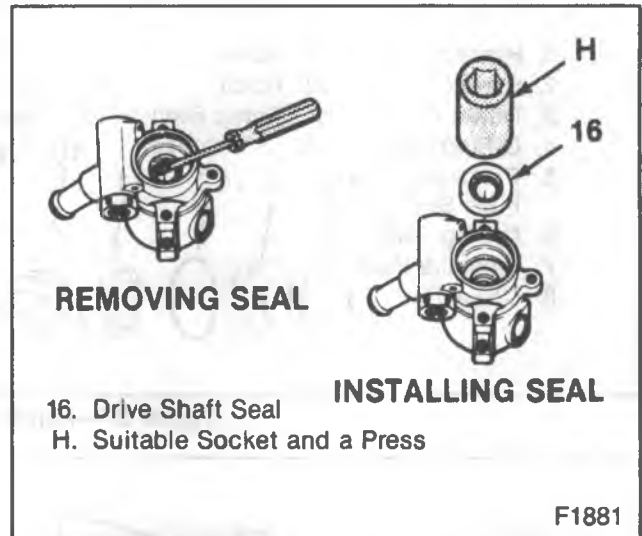

Figure 34—Remove and Install Driveshaft Seal
- Opening of ring (14) centered with bolt hole nearest to access hole.
- 15. Driveshaft seal (16).
- Use a suitable socket to press seal into housing until it bottoms (figure 34).